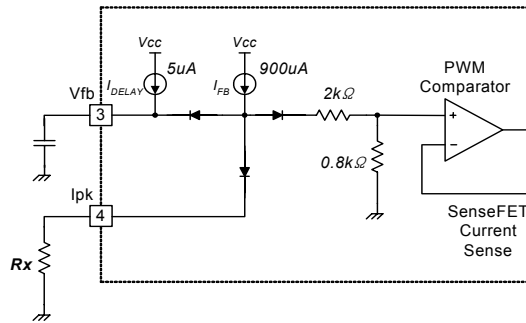

Figure 13. Peak Current Limit Adjustment
8. Adjusting Peak Current Limit : As shown in Figure 13, a combined 2.8kΩ internal resistance is connected to the non-inverting lead on the PWM comparator. A external resistance of Rx on the current limit pin forms a parallel resistance with the 2.8kΩ when the internal diodes are biased by the main current source of 900uA.